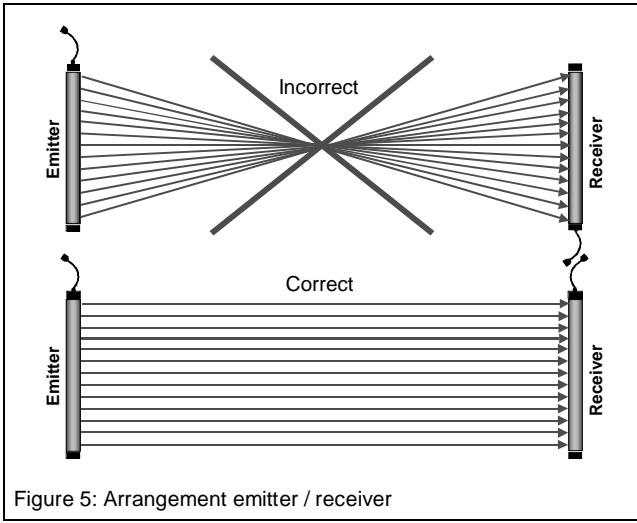

Figure 5: Arrangement emitter / receiver
- The emitter and receiver should not be rotated 180° when mounting. That means, the connection cable of the door edge **must** come out of the top (figure 5).